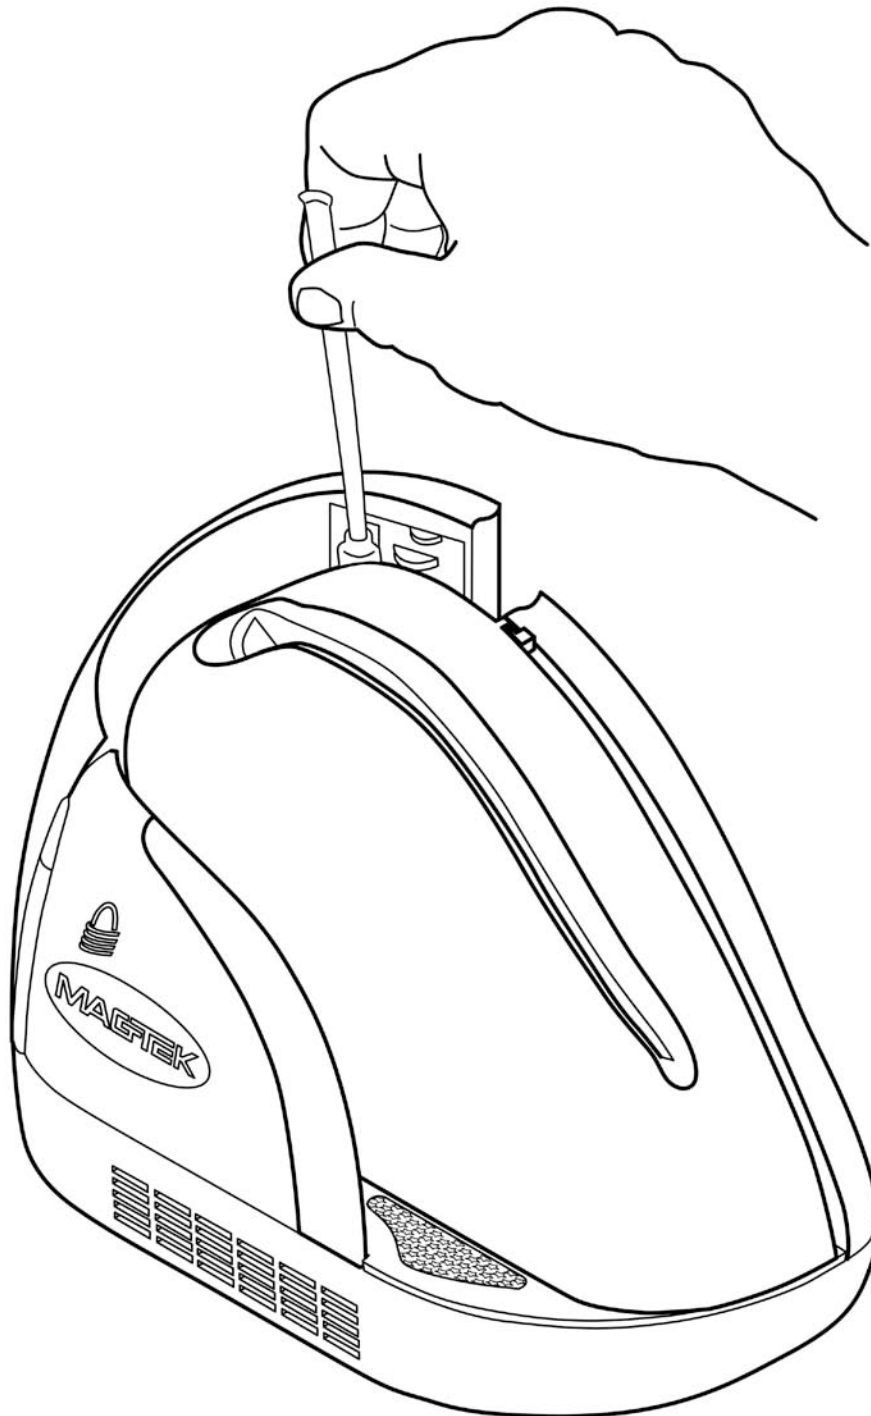

Figure 3-7. Cleaning the Second Scan Bar
6. After cleaning the first scan bar, clean the second scan bar by again wiping the swab up and down the scan bar surface as indicated in Figure 3-7.